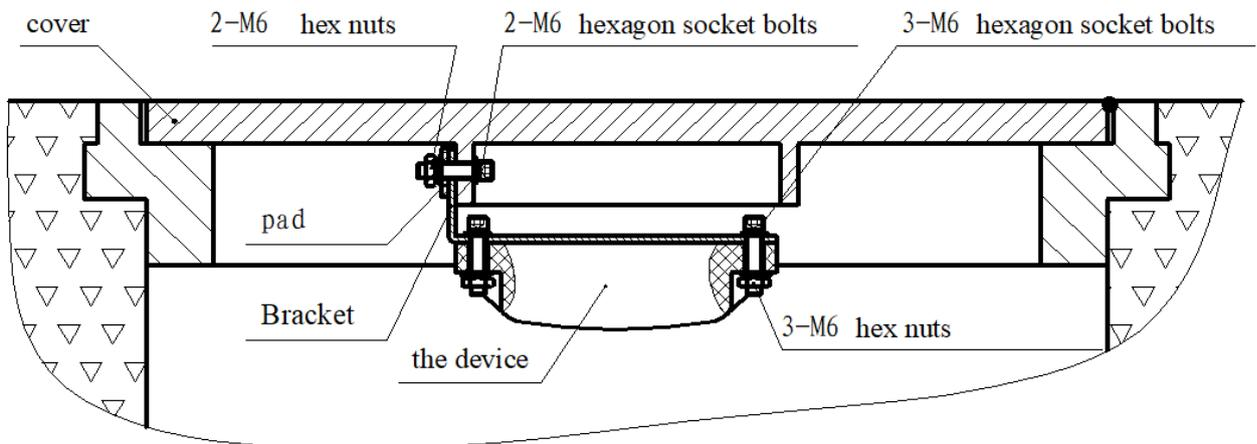

Figure 15 Installation Instruction with CS-ITWM-A01
4) Place the 2-M6*35mm hex socket bolts with spring washers and flat washers in sequence, as shown in Figure 15, through the 2 holes on the manhole cover, mounting bracket and gasket. Drip the thread glue on the bolts and nuts, pre-tighten the 2-M6 nuts by hand, adjust the top surface of bracket to the same level of the bottom of the manhole cover, and then tighten the bolts and nuts with the inner hexagonal wrench.